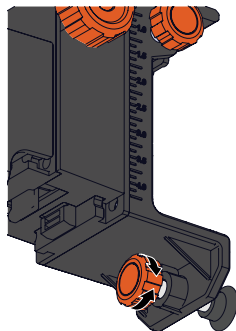

Figure 37
- The track mount accessory can also be hung on a nail using the mounting hole. Turn the knob on the leveling screw to help ensure the position of the unit is level. The leveling screw has a non-mar rubber foot to prevent damage to surfaces. (Figure 37)